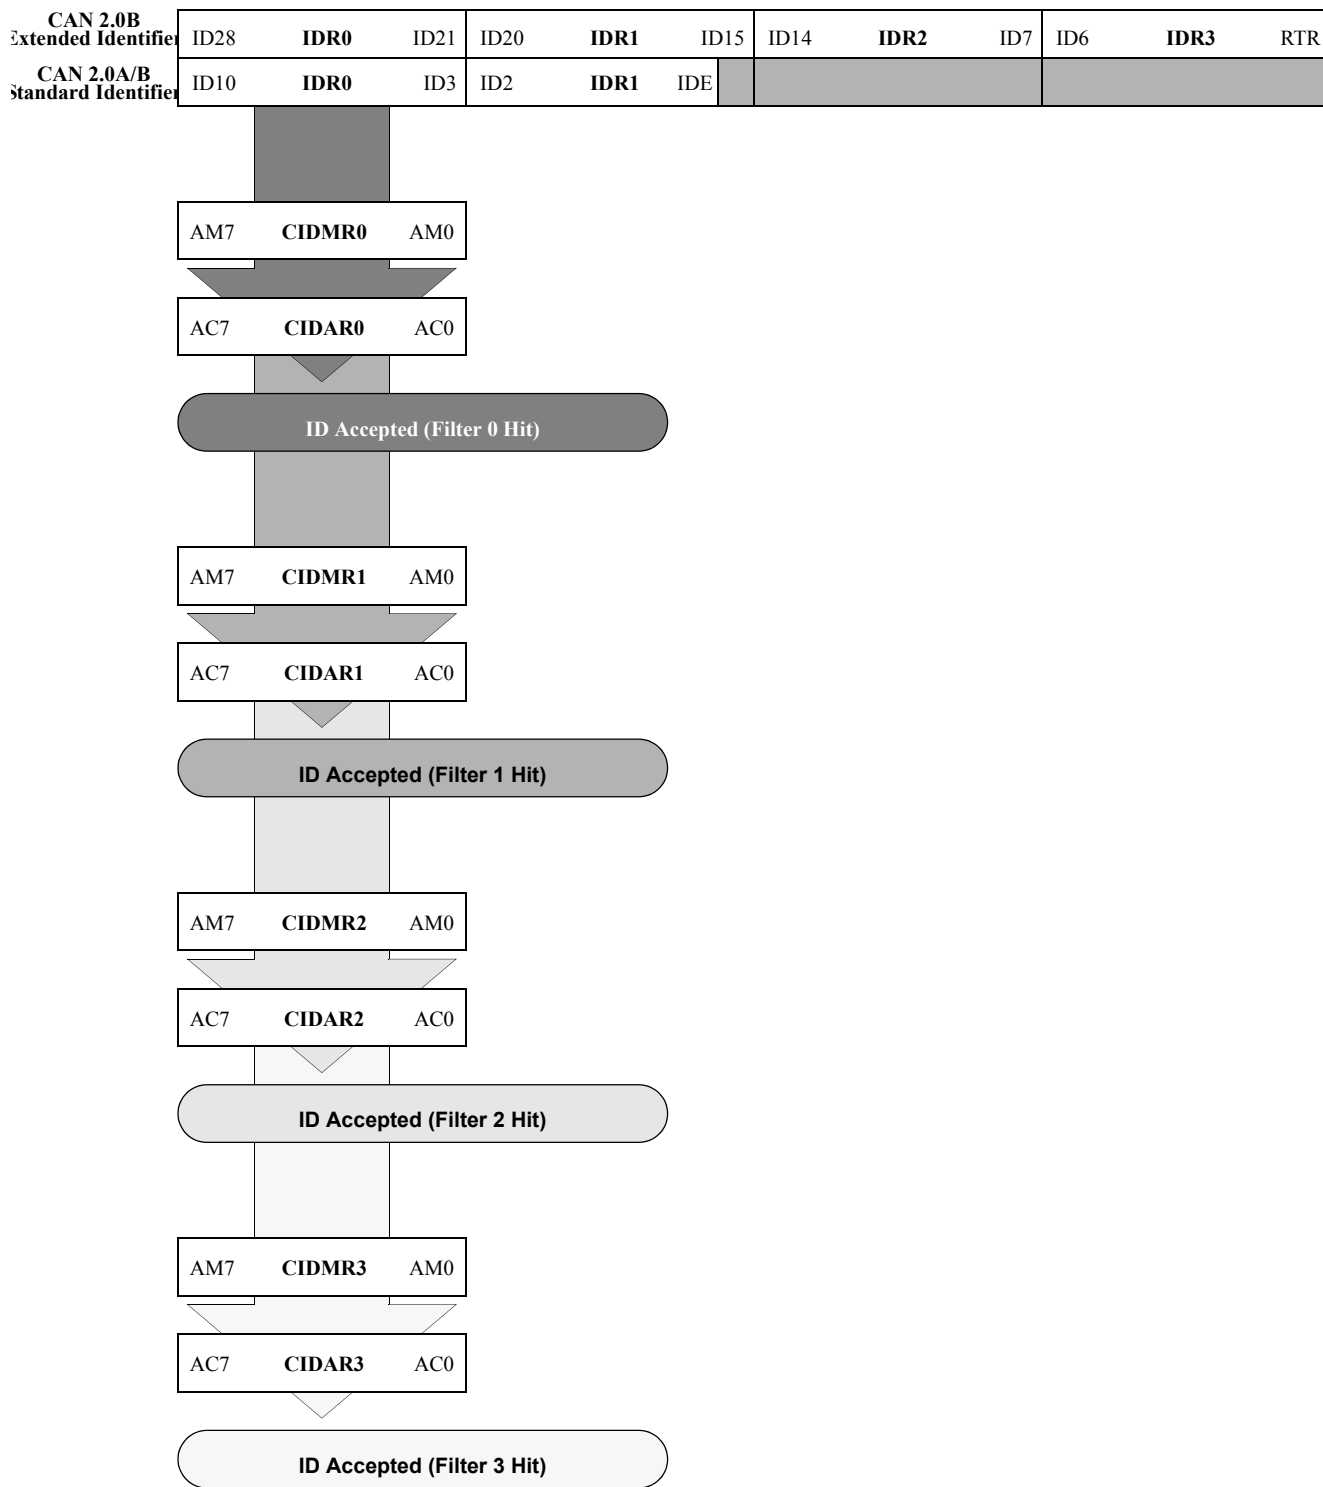

Figure 93. 8-bit maskable identifier acceptance filters
- Eight identifier acceptance filters, each to be applied to the first 8 bits of the identifier. This mode implements eight independent filters for the first 8 bits of a CAN 2.0A/B compliant standard identifier or a CAN 2.0B compliant extended identifier. Figure 93 shows how the first 32-bit filter bank (CANIDAR0–CANIDAR3, CANIDMR0–CANIDMR3) produces filter 0 to 3 hits. Similarly, the second filter bank (CANIDAR4–CANIDAR7, CANIDMR4–CANIDMR7) produces filter 4 to 7 hits.